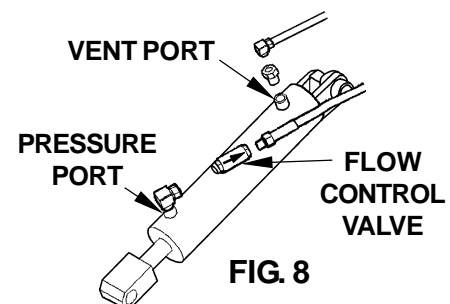

FIG. 8
2. Check the Hydraulic Cylinder. With the Platform on the ground, remove the Breather Plug or Vent Line from the Vent Port of the Cylinder (**FIG. 8**). Raise the Platform even with the bed. Allow pump motor to run two seconds more while you watch for hydraulic fluid at the Vent Port. A few drops of hydraulic fluid escaping the Vent Port is normal; however, if it streams from the Vent Port, Piston Seals are worn. Replace Seals.
3. Check and clean Flow Control Valve in high pressure hydraulic line attached to Cylinder. When installing Flow Control Valve make sure arrow on valve is oriented as shown in (**FIG. 8**).